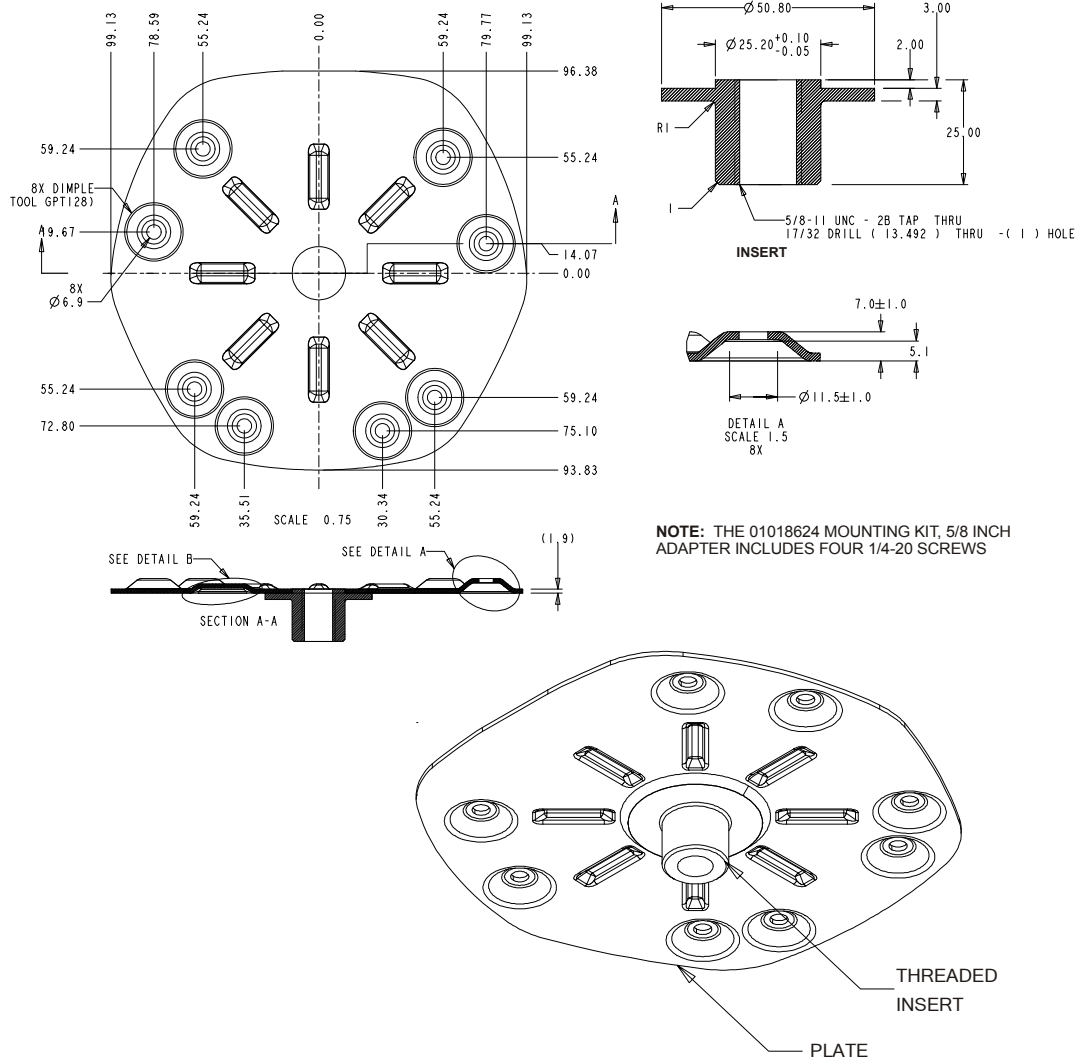

Figure 6: SMART-MR10/15 Mounting Kit, 5/8 Inch Adapter (01018624)
- Mounting Kit, 5/8 Inch Adapter (part number 01018624), shown in *Figure 6 on page 30*.